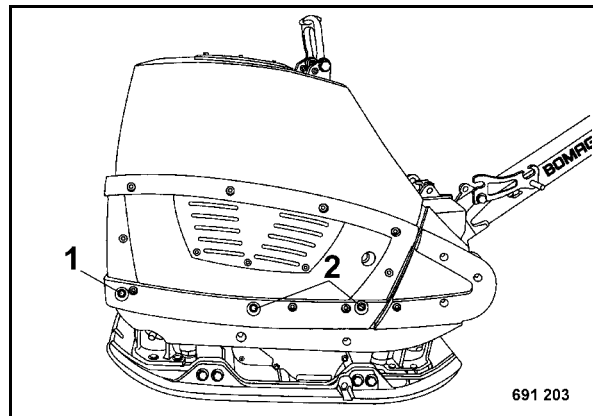

Fig. 42
- Loosen the hood fasteners (1) on both sides and remove the fasteners (2) from both sides (Fig. 42).